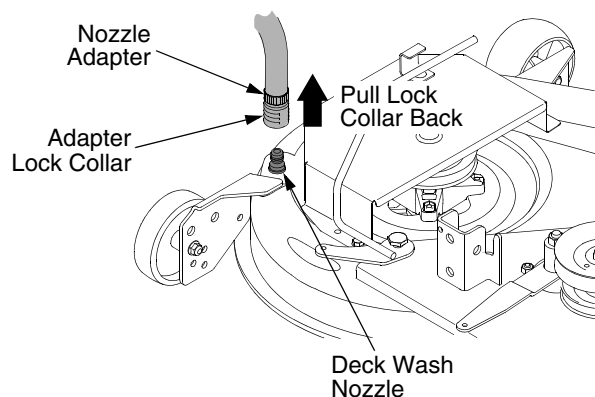

Figure 57
- Pull back the lock collar of the nozzle adapter and push the adapter onto one of the deck wash nozzles at either end of the mower deck. Release the lock collar to lock the adapter on the nozzle. See Figure 57.